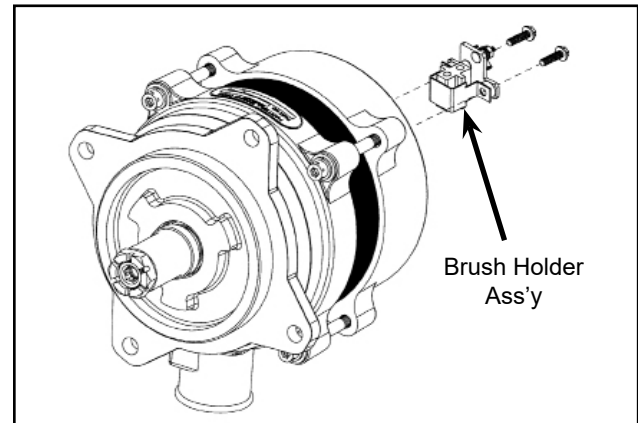

Figure 6.3b - Brush Holder Installation
- (3) Install the brush holder ass'y with the insulated brush retaining wire in place. Install the two brush holder screws. Refer to Fig. 6.3b.